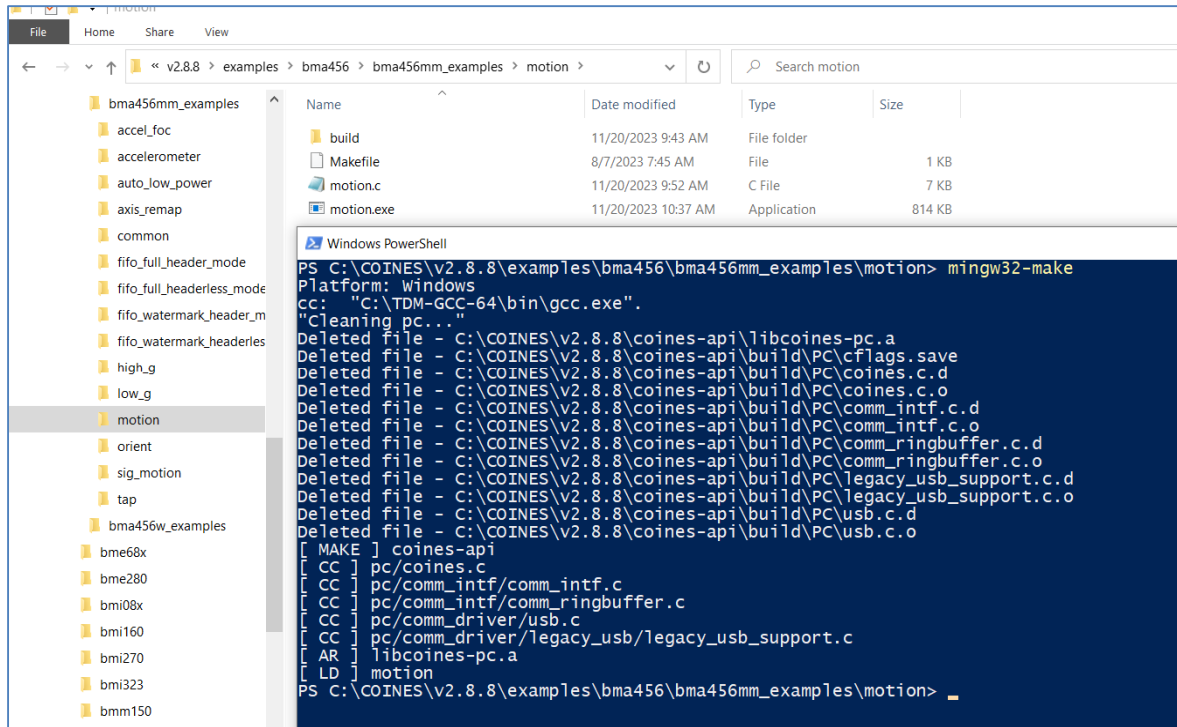

Figure 5 The EXE file is generated
- Type `mingw32-make` and then press Enter key. The “`motion.exe`” file will be generated as shown in Figure 5.